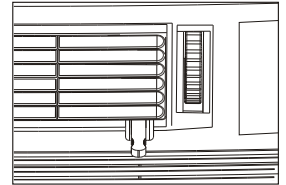

Figure 3 (VENT & EXHAUST OPEN)
3. Exchange air from the room and draws fresh air into the room - Vent and Exhaust Open (See Fig. 3)